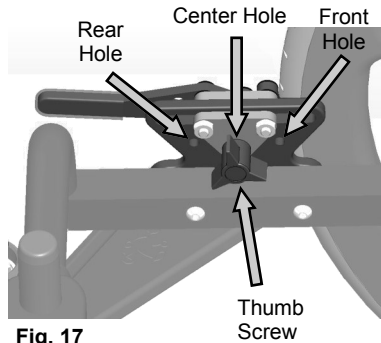

Fig. 17
- To change position of the wheel lock, remove the thumb screw (fig. 17). Move the wheel lock forward or rearward to coincide with the new wheel position. Align the threaded hole for the thumb screw with the front or rear hole (fig 17). Re-install thumb screw and tighten securely.